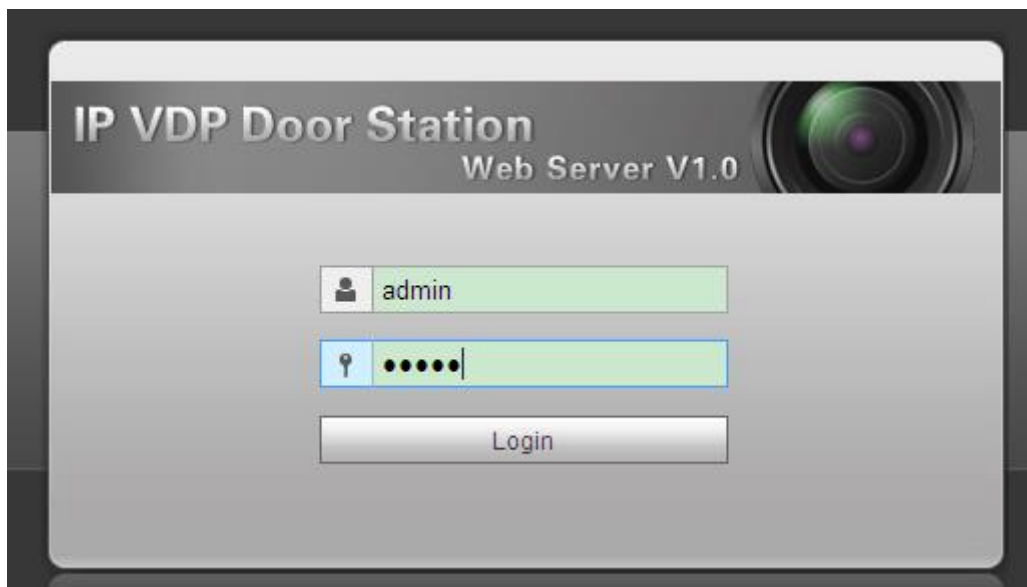

Figure 3- 1
Step 2. In Internet Explorer, input IP address of the VTO, and press Enter. System shows Figure 3- 1.